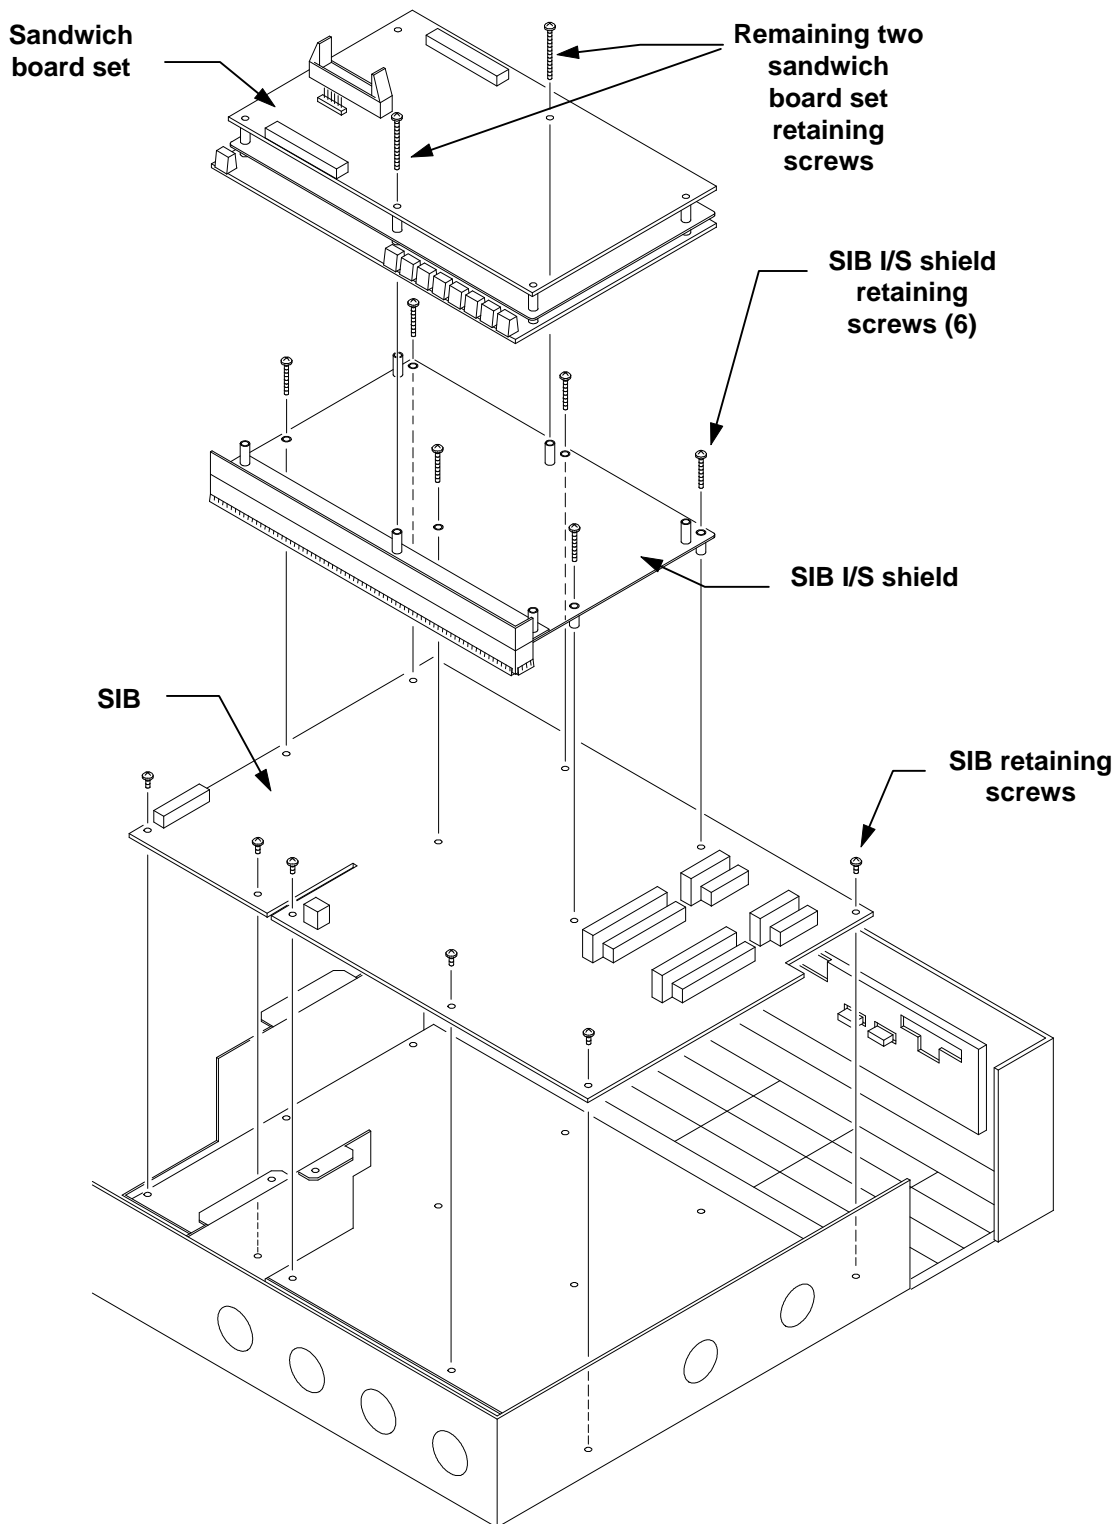

Figure 3 SIB and Sandwich Board Removal
1. Remove the remaining screws that hold the SIB and SIB I/S shield in place and remove the I/S shield together with the SIB. Refer to *figure 3*.